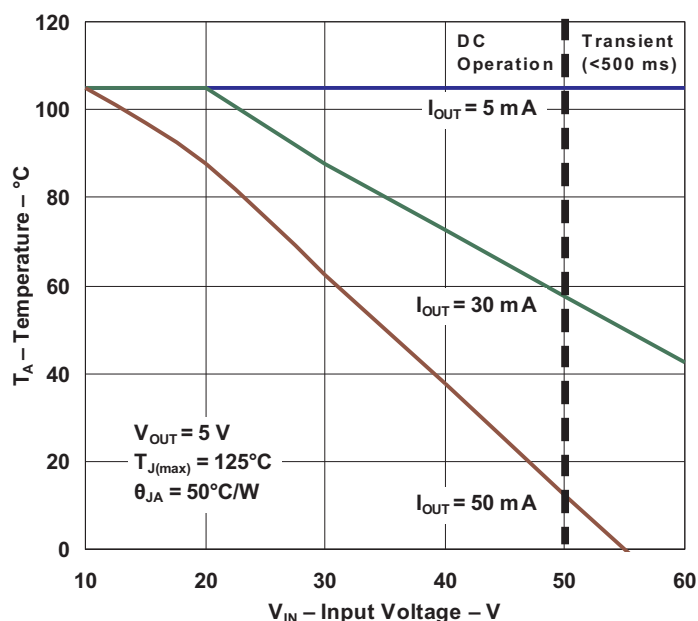

Figure 1. Safe Operating Area
- The junction temperature must not exceed 125°C. See Figure 1 to determine the maximum ambient operating temperature versus the supply voltage and load current. The safe operating area curves assume a 50°C/W thermal impedance and may need to be adjusted to match actual system thermal performance.